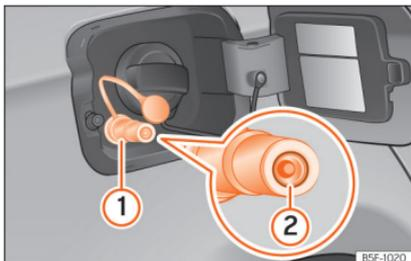

Fig. 305 Open tank lid: gas filler mouth ①, filler mouth retainer ②
- Remove the plug from the gas filler mouth » » » **Fig. 305 ①**.